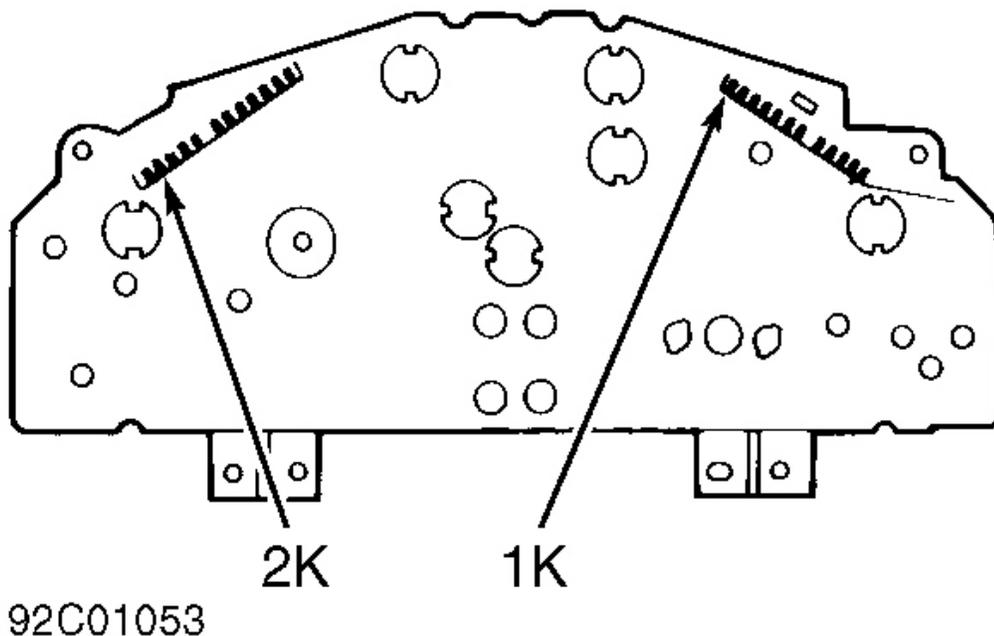

Fig. 8: Testing ANTI-LOCK Warning Light (Miata)
1. Start engine, and observe ANTI-LOCK light. Light should illuminate for a few seconds. If light does not illuminate as described, remove instrument cluster. Connect 12 volts to terminal 2k of instrument cluster. See **Fig. 8** . Using a jumper wire, connect terminal 1K of instrument cluster to ground. ANTI-LOCK light should illuminate. If light does not illuminate, check bulb. If bulb is okay, check meter fuse and wiring harness.